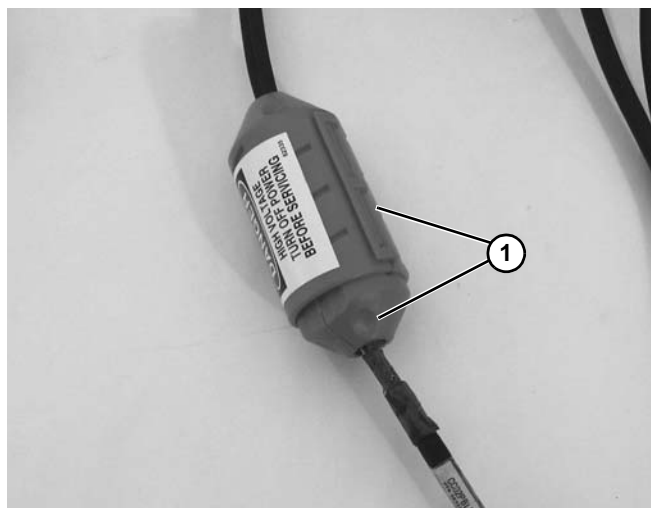

Figure 13
7. Twist covers (Figure 13, item 1) together, as shown.